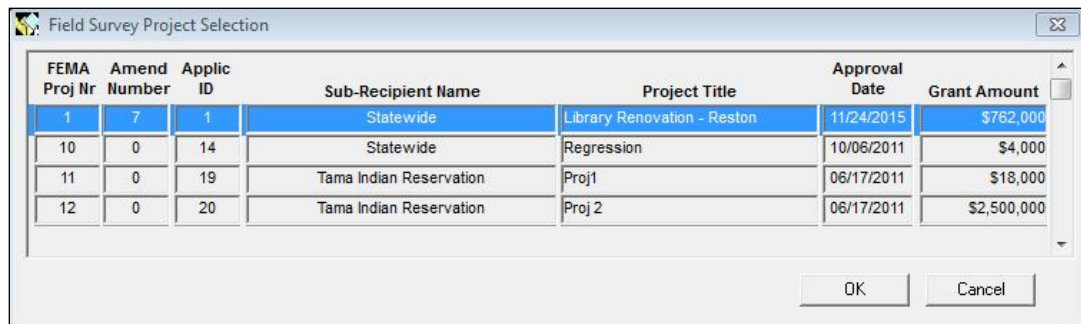

Figure 11-8: Field Survey Project Selection Screen
9. The Field Survey Project List is displayed (Figure 11-8).